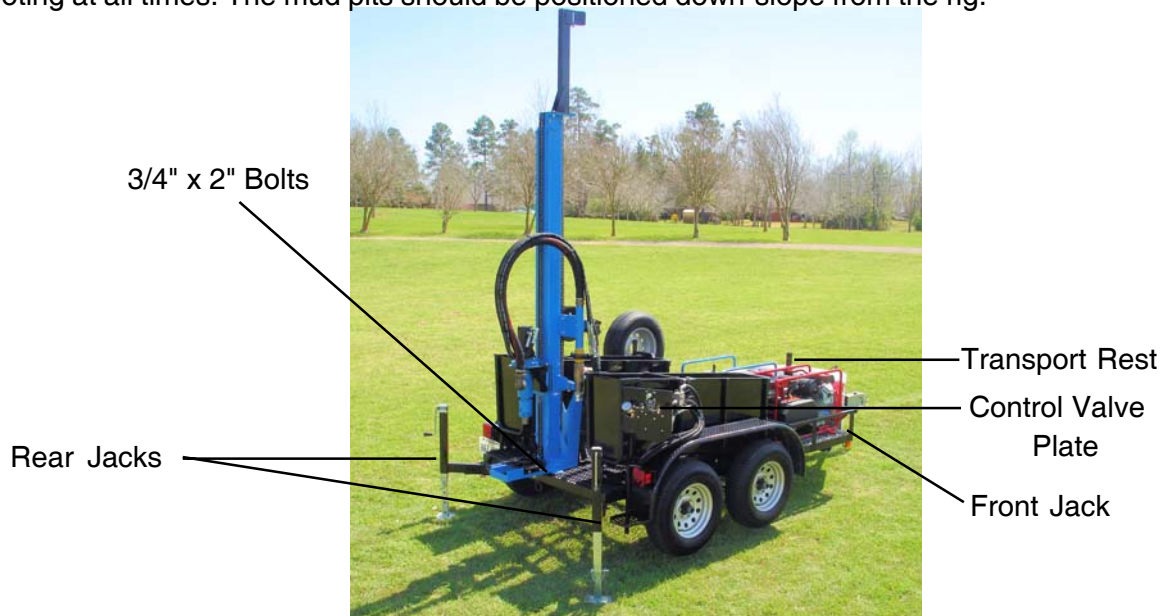

Figure 2
Pull the mast hold-down pin and raise the mast to the full upright position. Replace the pin in the transport rest. See Figure 2. Install and tighten the two 3/4" bolts at the base of the mast. Level the trailer and mast using the three (3) jackstands (two at rear of trailer and one on tongue). Lower the control valve plate and connect the hydraulic hoses from the power source to the quick disconnects on the sides of the valves. Connect the rotary drive hydraulic hoses to the quick disconnects on top of the rotary control valve. See Figure 3. Remove the mud pump from the trailer and place it near the pit. Connect the mud hoses. The hose from the center of the 3-way valve connects to the mud pump discharge; the hose from the bottom of the 3-way valve connects to the mud mixer. The suction hose with foot valve connects to the mud pump suction inlet.